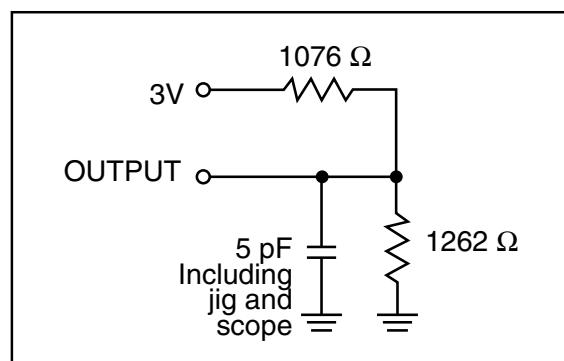

Figure 2.
- Tested with the load in Figure 2. Transition is measured $\pm 500\text{mV}$ from steady-state voltage. Not 100% tested.
3. Tested with the load in Figure 2. Transition is measured $\pm 500\text{mV}$ from steady-state voltage.